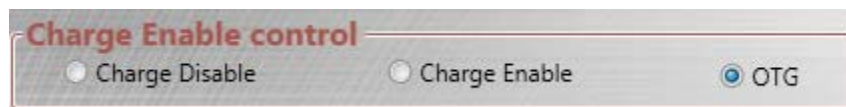

Figure 21: Charge Enable Control Menu
4. Pull JP3 high, and select OTG from the Charge Enable Control menu (see Figure 21).